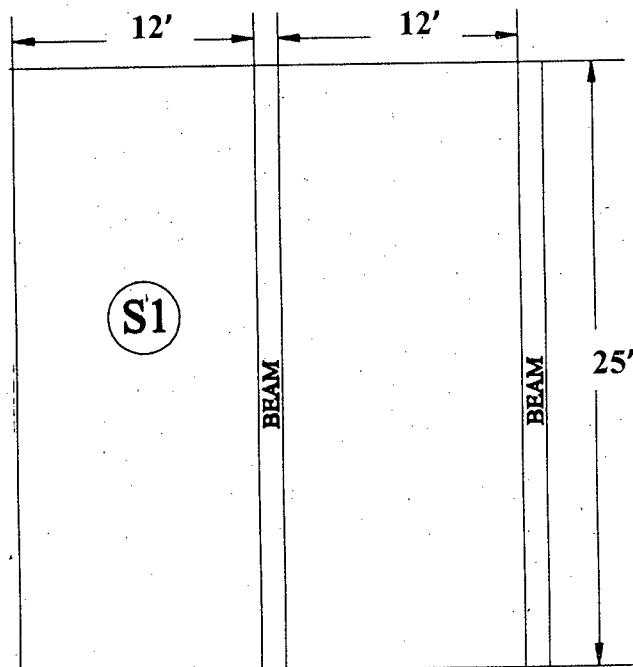

Figure: 02
2. (a) A reinforced concrete slab consists of more than two spans and has unrestrained discontinuous end. Design the one way slab panel 'S1' as shown in Fig. 02. The service live load is 100 psf in addition to its self-weight. Follow the provisions of ACI code. Use Fig. 03 to determine factored moment. Draw the reinforcement details also. **(20)**